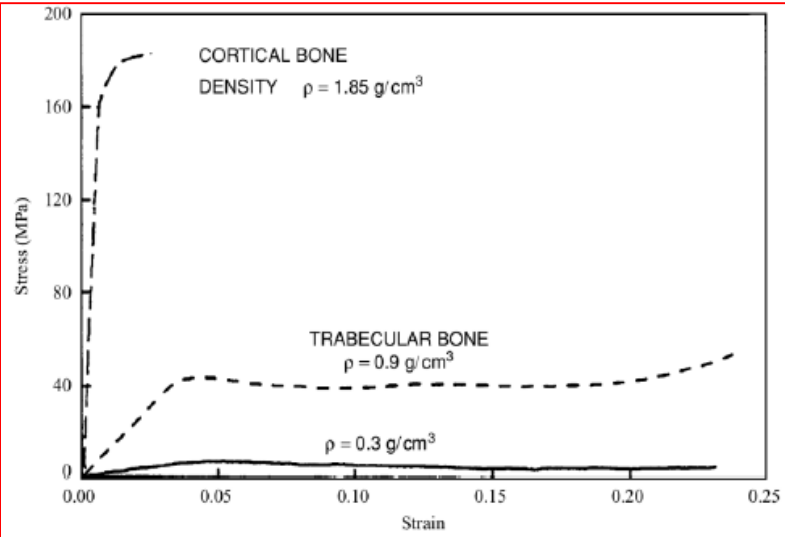

Figure 3. Stress-strain curves of bone under compression
4. In this question we will assess the strength of cortical and trabecular bone. Stress-strain curves in a compression test have been obtained for cortical and trabecular bone (Figure 3). The two samples of trabecular bone came from patients with healthy and osteopenic bone. From these results, we can determine the mechanical properties for each bone sample. These values are shown in Table 1.